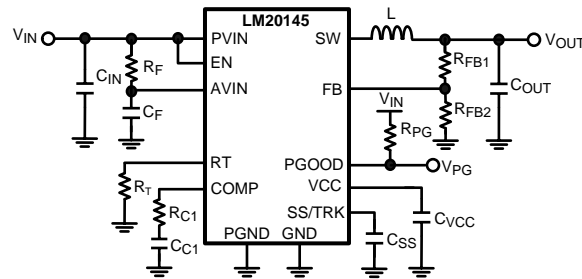

Figure 26. Typical Application Circuit
The LM20145 switching regulator features all of the functions necessary to implement an efficient low voltage buck regulator using a minimum number of external components. This easy to use regulator features two integrated switches and is capable of supplying up to 5A of continuous output current. The regulator utilizes peak current mode control with nonlinear slope compensation to optimize stability and transient response over the entire output voltage range. Peak current mode control also provides inherent line feed-forward, cycle-by-cycle current limiting and easy loop compensation. The switching frequency can be varied from 250 kHz to 750 kHz. The device can operate at high switching frequency allowing use of a small inductor while still achieving high efficiency. The precision internal voltage reference allows the output to be set as low as 0.8V. Fault protection features include: current limiting, thermal shutdown, over voltage protection, and shutdown capability. The device is available in the HTSSOP-16 package featuring an exposed pad to aid thermal dissipation. The LM20145 can be used in numerous applications to efficiently step-down from a 5V or 3.3V bus. The typical application circuit for the LM20145 is shown in Figure 26 in the design guide.
This section walks the designer through the steps necessary to select the external components to build a fully functional power supply. As with any DC-DC converter numerous trade-offs are possible to optimize the design for efficiency, size, or performance. These will be taken into account and highlighted throughout this discussion. To facilitate component selection discussions the circuit shown in Figure 26 below may be used as a reference. Unless otherwise indicated all formulas assume units of amps (A) for current, farads (F) for capacitance, henries (H) for inductance and volts (V) for voltages.
To prevent high frequency noise spikes from disturbing the sensitive analog circuitry connected to the AVIN and AGND pins, a high frequency RC filter is required between PVIN and AVIN. These components are shown in Figure 26. as  $C_F$  and  $R_F$ . The required value for  $R_F$  is 1Ω.  $C_F$  must be used. Recommended value of  $C_F$  is 1.0 μF. The filter capacitor,  $C_F$  should be placed as close to the IC as possible with a direct connection from AVIN to AGND. A good quality X5R or X7R ceramic capacitor should be used for  $C_F$ .